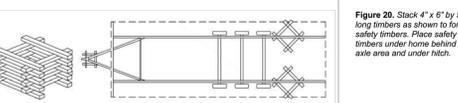

Figure 20. Stack 4" x 6" by 5' long timbers as shown to form safety timbers. Place safety timbers under home behind axle area and under hitch.
- Make sure adequate safety cribbing (Figure 20) is in place whenever the home is placed on jacks.
2. **Install cribbing.** Install safety cribbing (Figure 20).